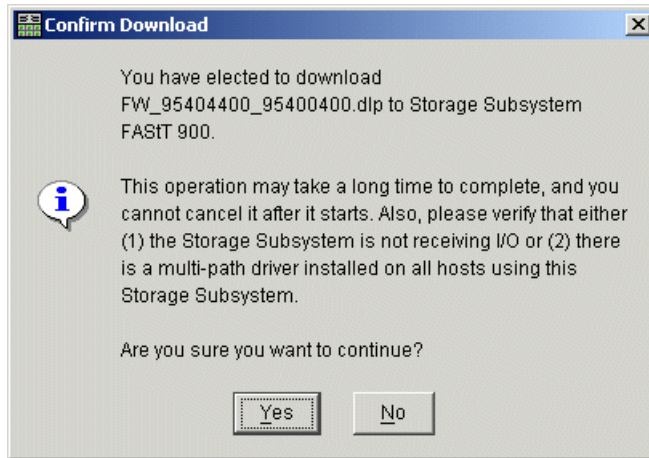

Figure 11-3 Confirming the download of the new firmware
- c. A new window (Figure 11-3) appears where you have to confirm that all the requirements are met. Click **Yes** to confirm the download.